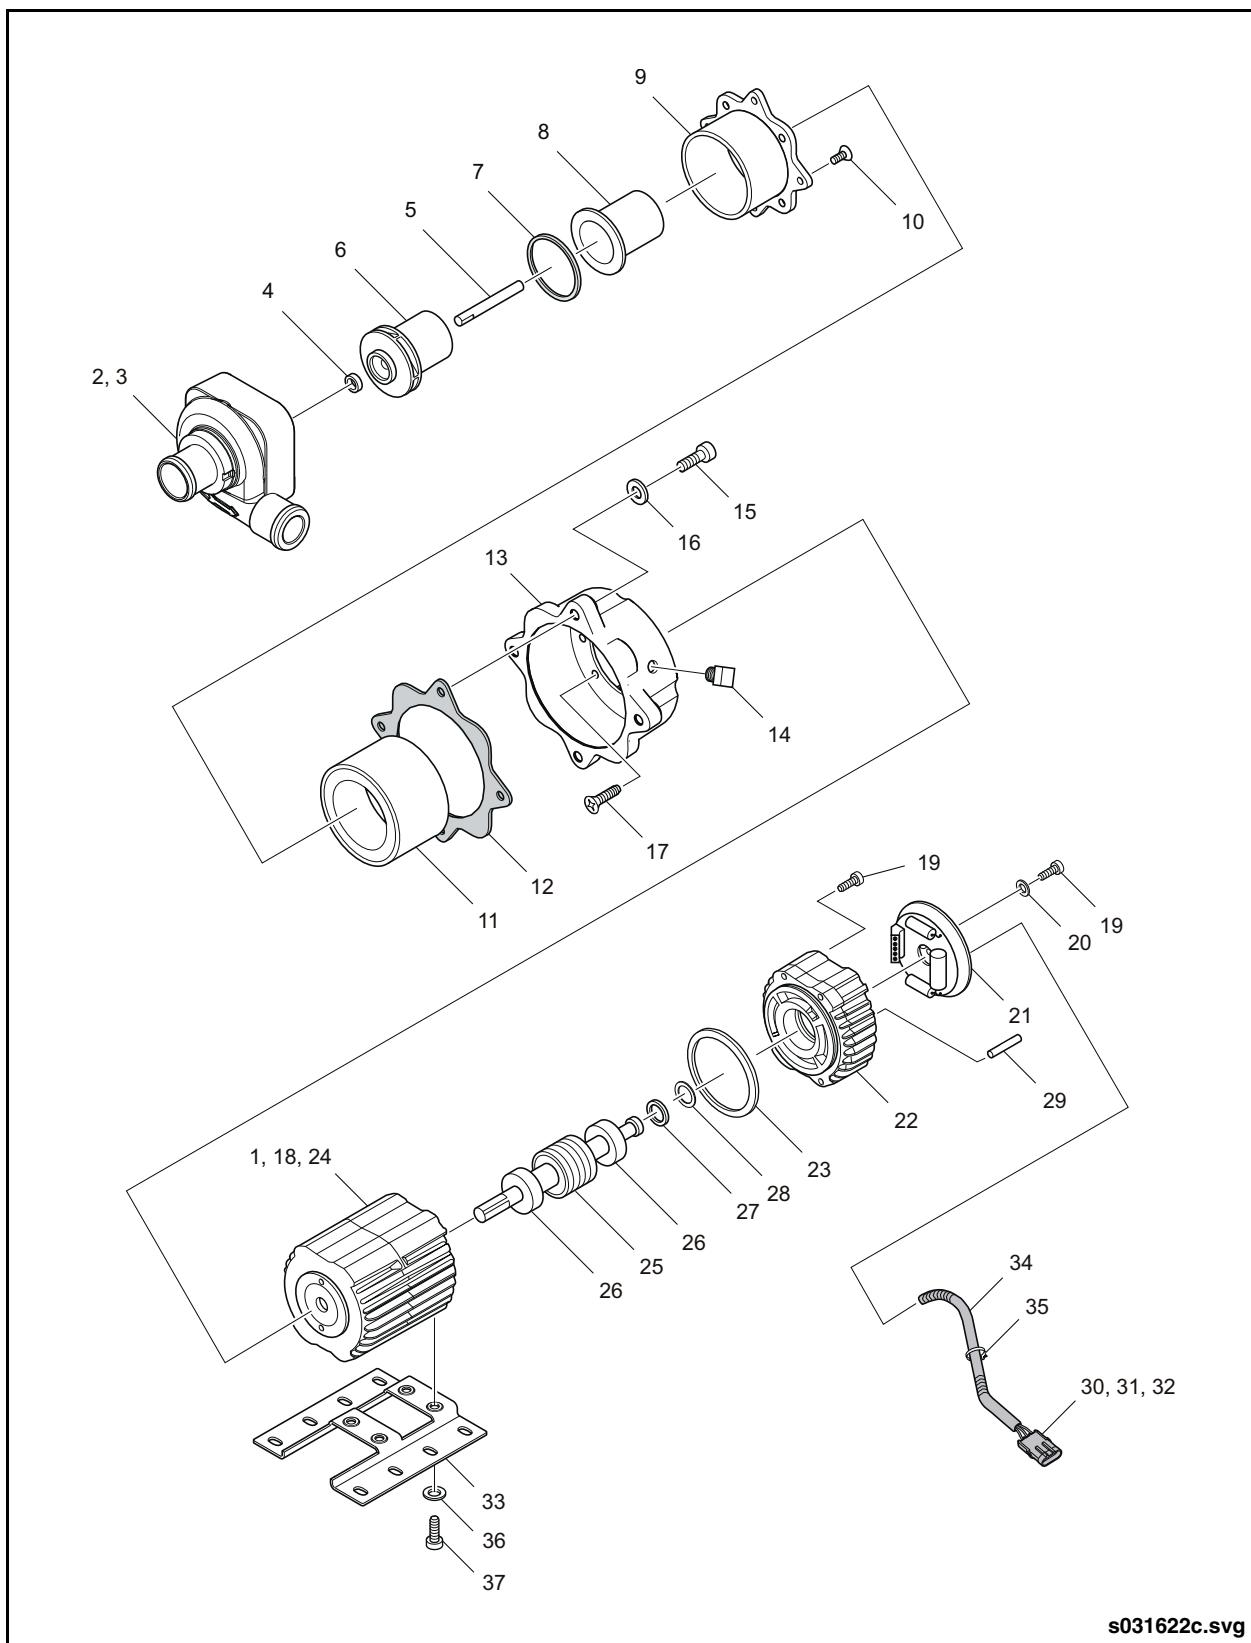

Fig. 10-20: Booster Pump Assembly
1. Mark the position of the pump housing with respect to the connector ring housing and connecting housing. See "Fig. 10-20: Booster Pump Assembly" on page 48.